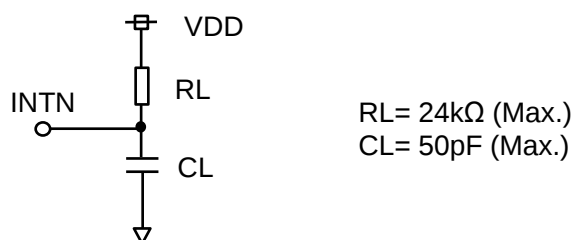

Figure 9.2. INTN Output Load Circuit
* 8. When the load circuit of Figure 9.2 is connected